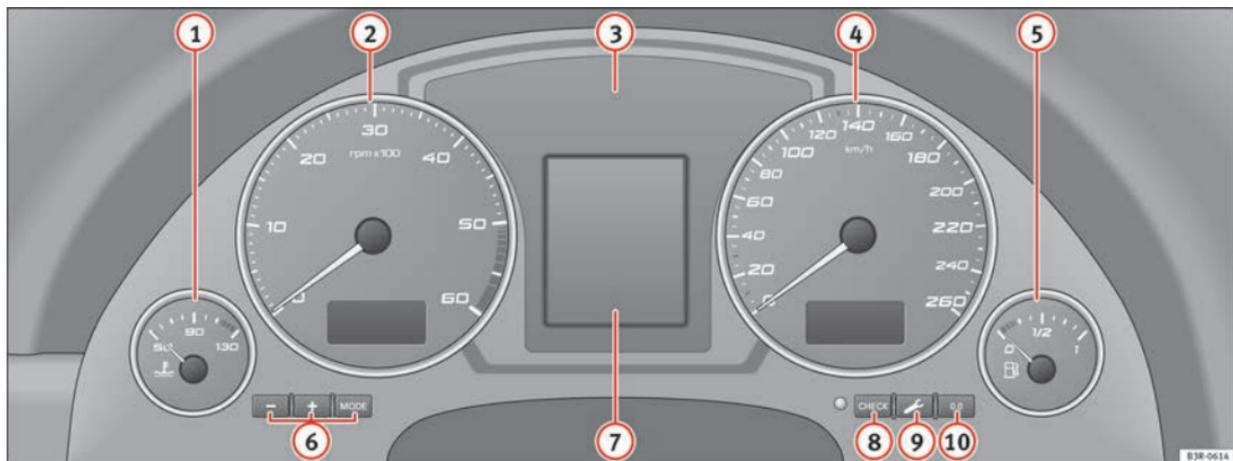

Fig. 38 Overview of instrument panel
When the ignition is switched off, the odometer and the digital clock with date display can be switched on for a few seconds by pressing the CHECK button → Fig. 38 ⑧.